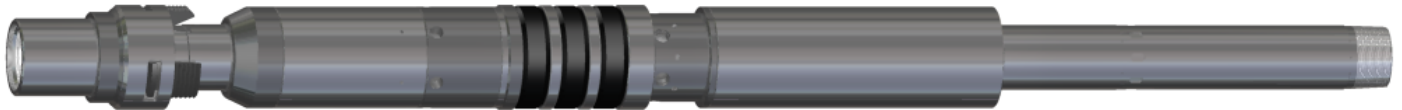

Fig. 14
K-13.1) While gripping in the element area, slide pre-assembled assemblies (by-pass housing assembly, rubber mandrel assembly, and setting chamber assembly) onto mandrel assembly past making contact with o-rings and on upwards to upper cone (9) (Fig. 14).
K-23.6) Align threaded holes in lower slip body (18) with recessed holes in inner mandrel (2). Screw shear screws (38) into lower slip body (18). Tighten until shear screws (38) make contact with inner mandrel (2). Back shear screws (38) out 1/4 turn (Fig. 14).
K-24) Screw bottom sub (28) onto inner mandrel (2) (Fig. 14).